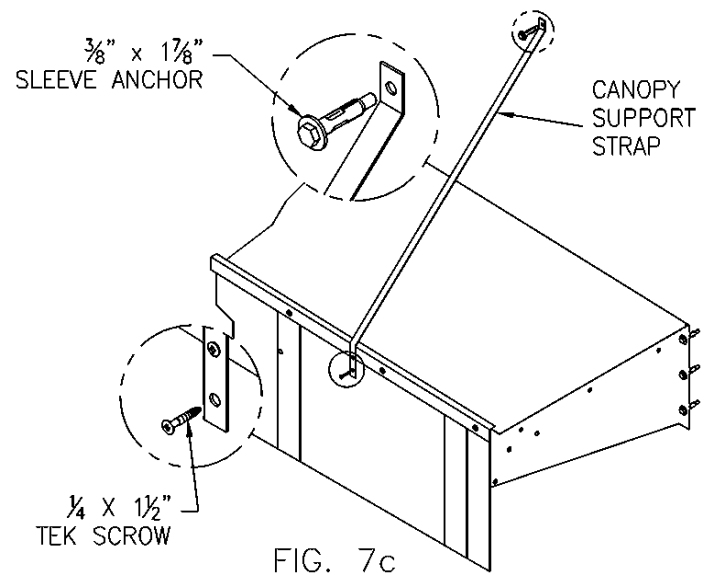

FIG. 7c
- Attach lower end of canopy strap to face of header at about 2ft. in from the edge. Use 1/4 x 1 1/2" tek screws & tighten using 3/8" driver bit (Fig. 7c).
- Using a 3/8" masonry drill bit, drill hole for 3/8" x 1 7/8" sleeve anchor (Fig. 7c).